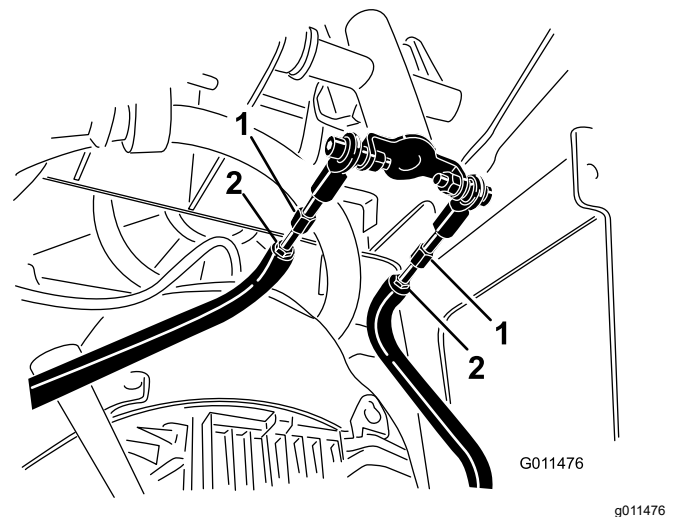

Figure 56
- Loosen the jam nuts on the traction rods, under the control panel (Figure 56).